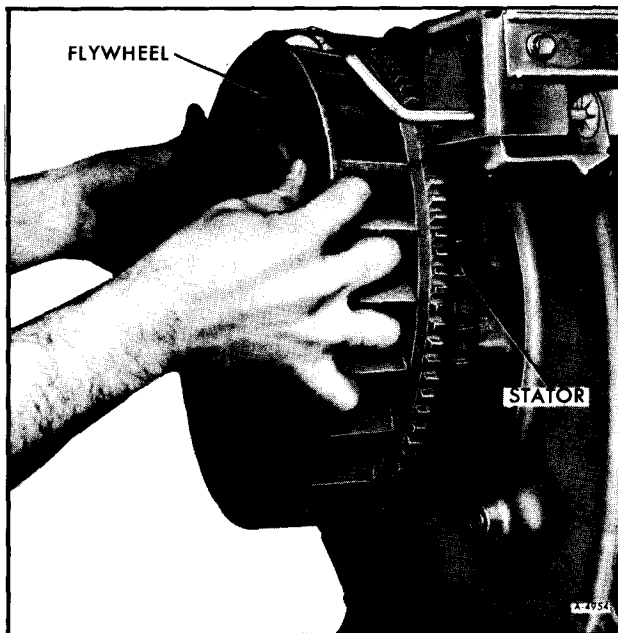

Figure 51—Removing Flywheel
8. Pull the flywheel straight off being careful not to contact the alternator stator (See figure 51).